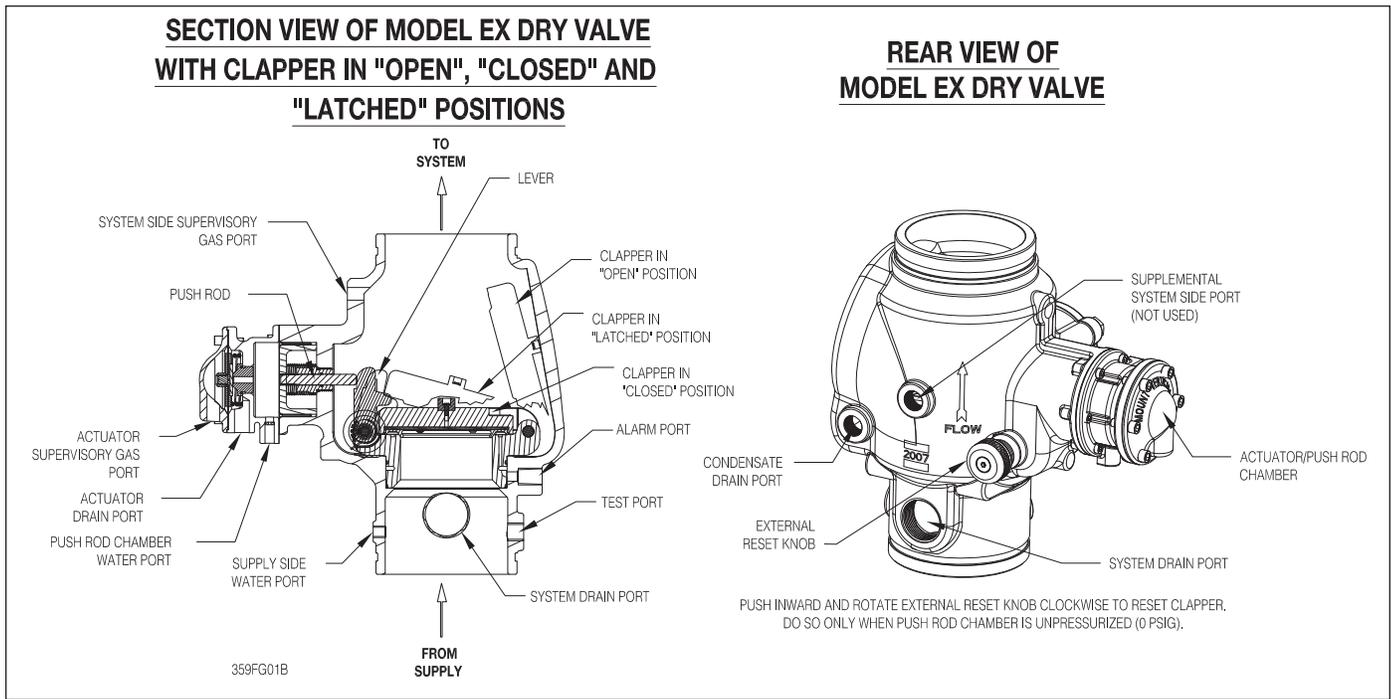

Fig. 1
The Reliable Model EX Low Pressure Dry Pipe Valve is a hydraulically operated, differential latching clapper-type valve (see Fig 1.) designed for use as a primary control valve in a dry pipe valve system. The Model EX Low Pressure Dry Pipe Valve allows the system's air or nitrogen pressure requirement to be considerably less than the available water supply pressure (see Table A, page 13). The following benefits are a direct result of the ability to use lower air pressure:
5. System maintenance is simplified since priming water is not required and the Dry Pipe Valve can be reset externally without cover removal. This is accomplished by pushing in and turning the external reset knob at the rear of the Dry Pipe Valve (see Fig. 1). This feature provides a significant system-restoration time advantage.
The Reliable Model EX Low Pressure Dry Pipe Valve is shown in both closed and open positions in Fig. 1. In the closed position, the supply pressure acts on the underside of the clapper and also on the pushrod through the pushrod chamber's inlet restriction. The resultant force due to the supply pressure acting on the push rod is multiplied by the mechanical advantage of the lever and is more than sufficient to hold the clapper closed against normal supply pressure surges.
After system shutdown, resetting the Model EX Low Pressure Dry Pipe Valve is quite simple. Doing so only requires pushing in and turning the reset knob at the rear of the valve (see Fig. 1). The external reset feature of the Model EX Low Pressure Dry Pipe Valve provides a means for simple, economical system testing, which is one essential facet of a good maintenance program. The external reset feature does not, however, eliminate another important facet of good maintenance, namely, periodic cleaning and inspection of the internal valve parts.